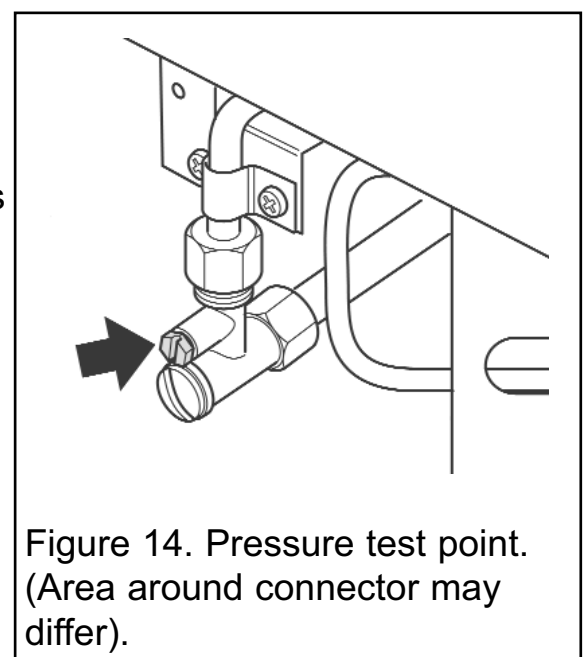

Figure 14. Pressure test point.
1. Attach a pressure gauge to the pressure test point (See figure 14).